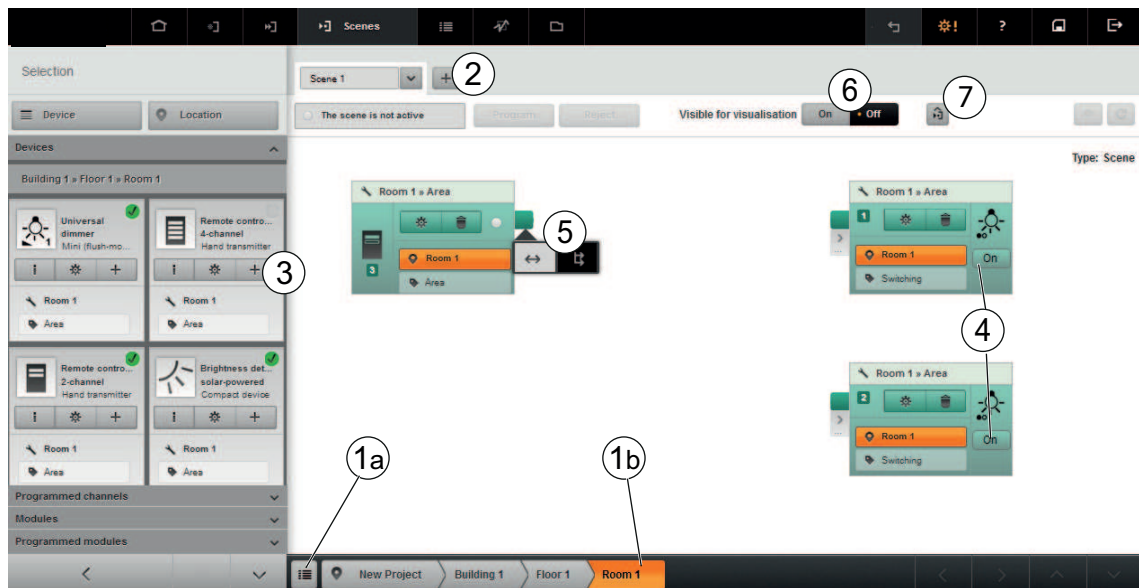

Figure 54: Creating a scene - First steps
- Select a location from the building overview (1a) or breadcrumb bar (1b) to assign the scene to a location (Figure 54).
- Select the **+** button next to the tab to create a new plan (2).